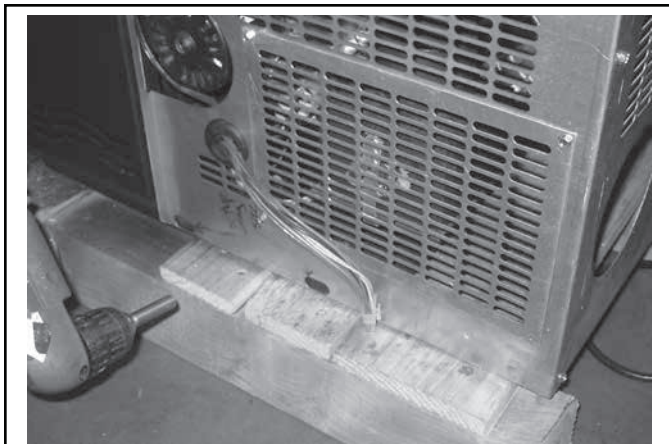

Figure 61
8. Set the assembled ZC box near the back of the stove and pull the power cord, located in the lower rear of the stove, through the rubber grommet at the bottom of the back panel (A). Now, pull the wiring harness through the rubber grommet located towards the bottom of the right side panel (C) (see **Figure 61**). Slide the ZC box against the back of the stove and reinstall the 3 screws removed in Step 7 through top panel (D) and into the stove.